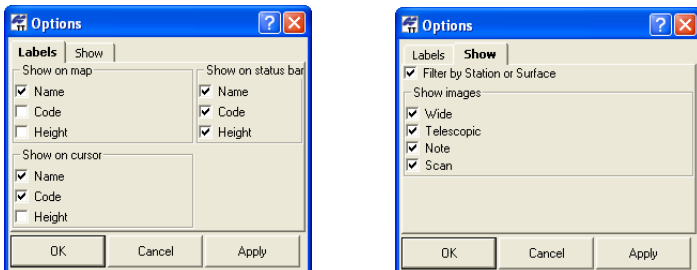

Figure 4-61. Image tab -&gt; Labels and Show Options
1. Right-click on the *Image* tab, and select *Options* on the pop-up menu. The Options dialog box displays (Figure 4-61).
2. On the *Labels* tab, enable the desired settings (Figure 4-61). Click **Apply** to apply the changes, then click **OK** to save the settings.
3. On the *Show* tab, enable the desired settings (Figure 4-61). Click **Apply** to apply the changes, then click **OK** to save the settings.